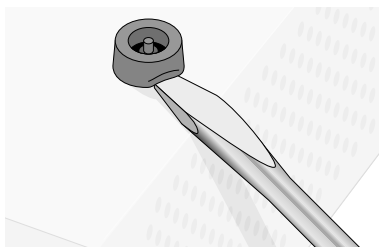

Figure 1 Removing the Rubber Feet
2. Remove the corner screws and the rubber feet from the bottom of the module. See example in Figure 1.